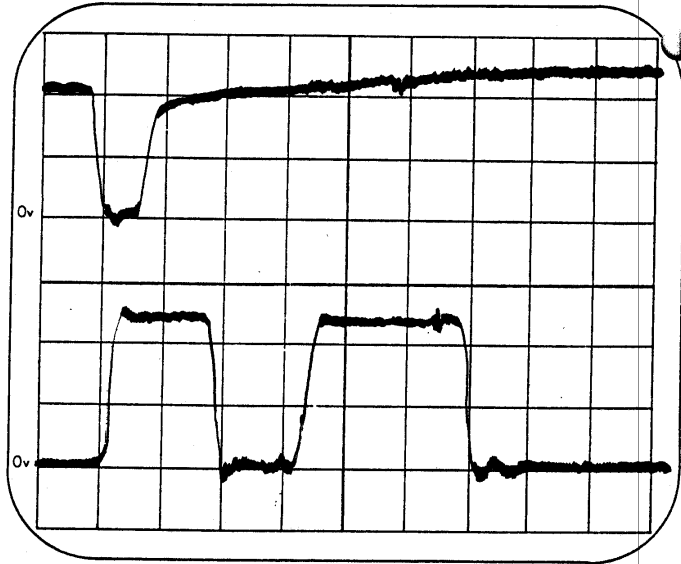
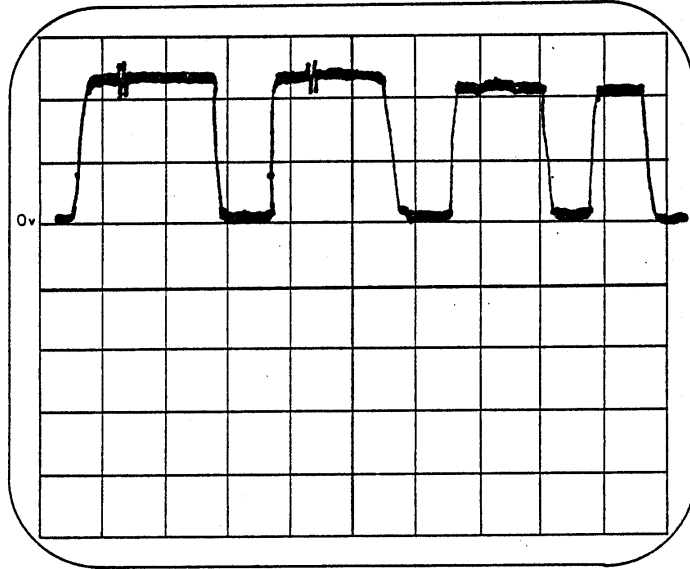

Figure 3-4. Waveforms for Test Points 8 and 6
Figure 3-8. Waveform for Test Point 6
6. TP6 should appear as in Figure 3-4.
2. TP6 appears as in Figure 3-4.
5. Set the scope at .5 microseconds/division and observe TP6 (zone D2, Figure 3-8), TP8 (zone A2, Figure 3-4), and TP9 (zone A1, Figure 3-7).